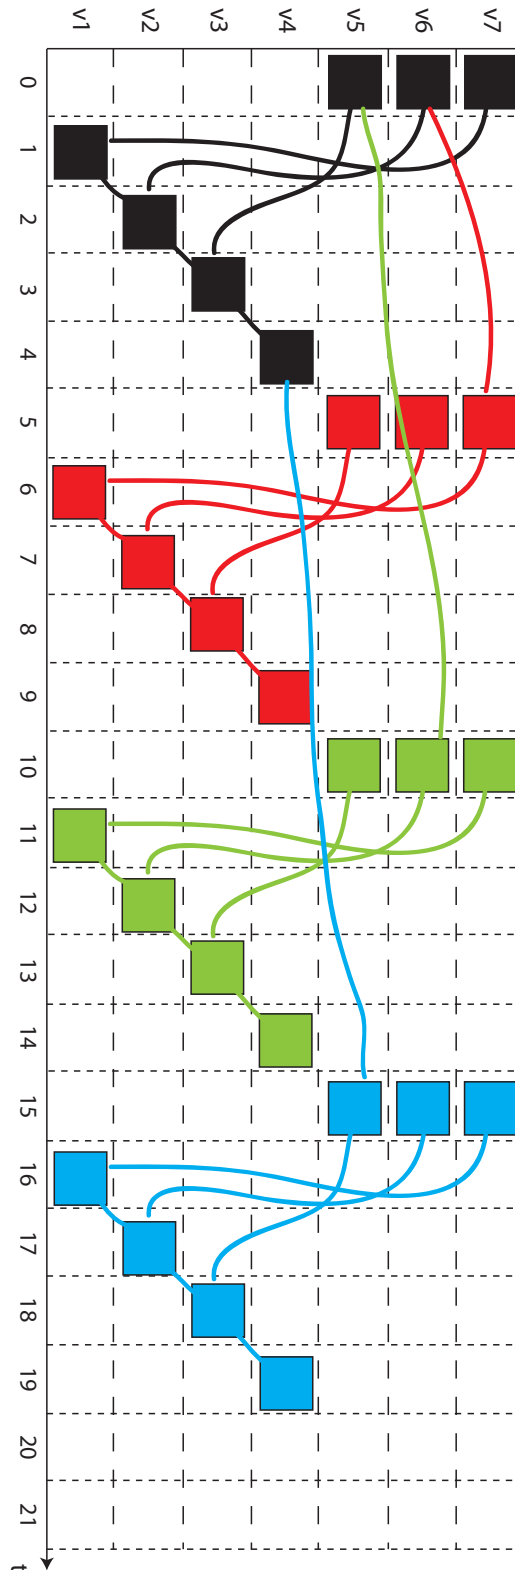

Abbildung 35: Schedule without loop folding
- (c) (6 Punkte) Assume that you have unlimited number of resources. Draw a schedule for 4 iterations without functional pipelining and without loop folding. Draw all dependencies on the schedule including the ones between iterations. Use Figure 35.
See Figure 35.